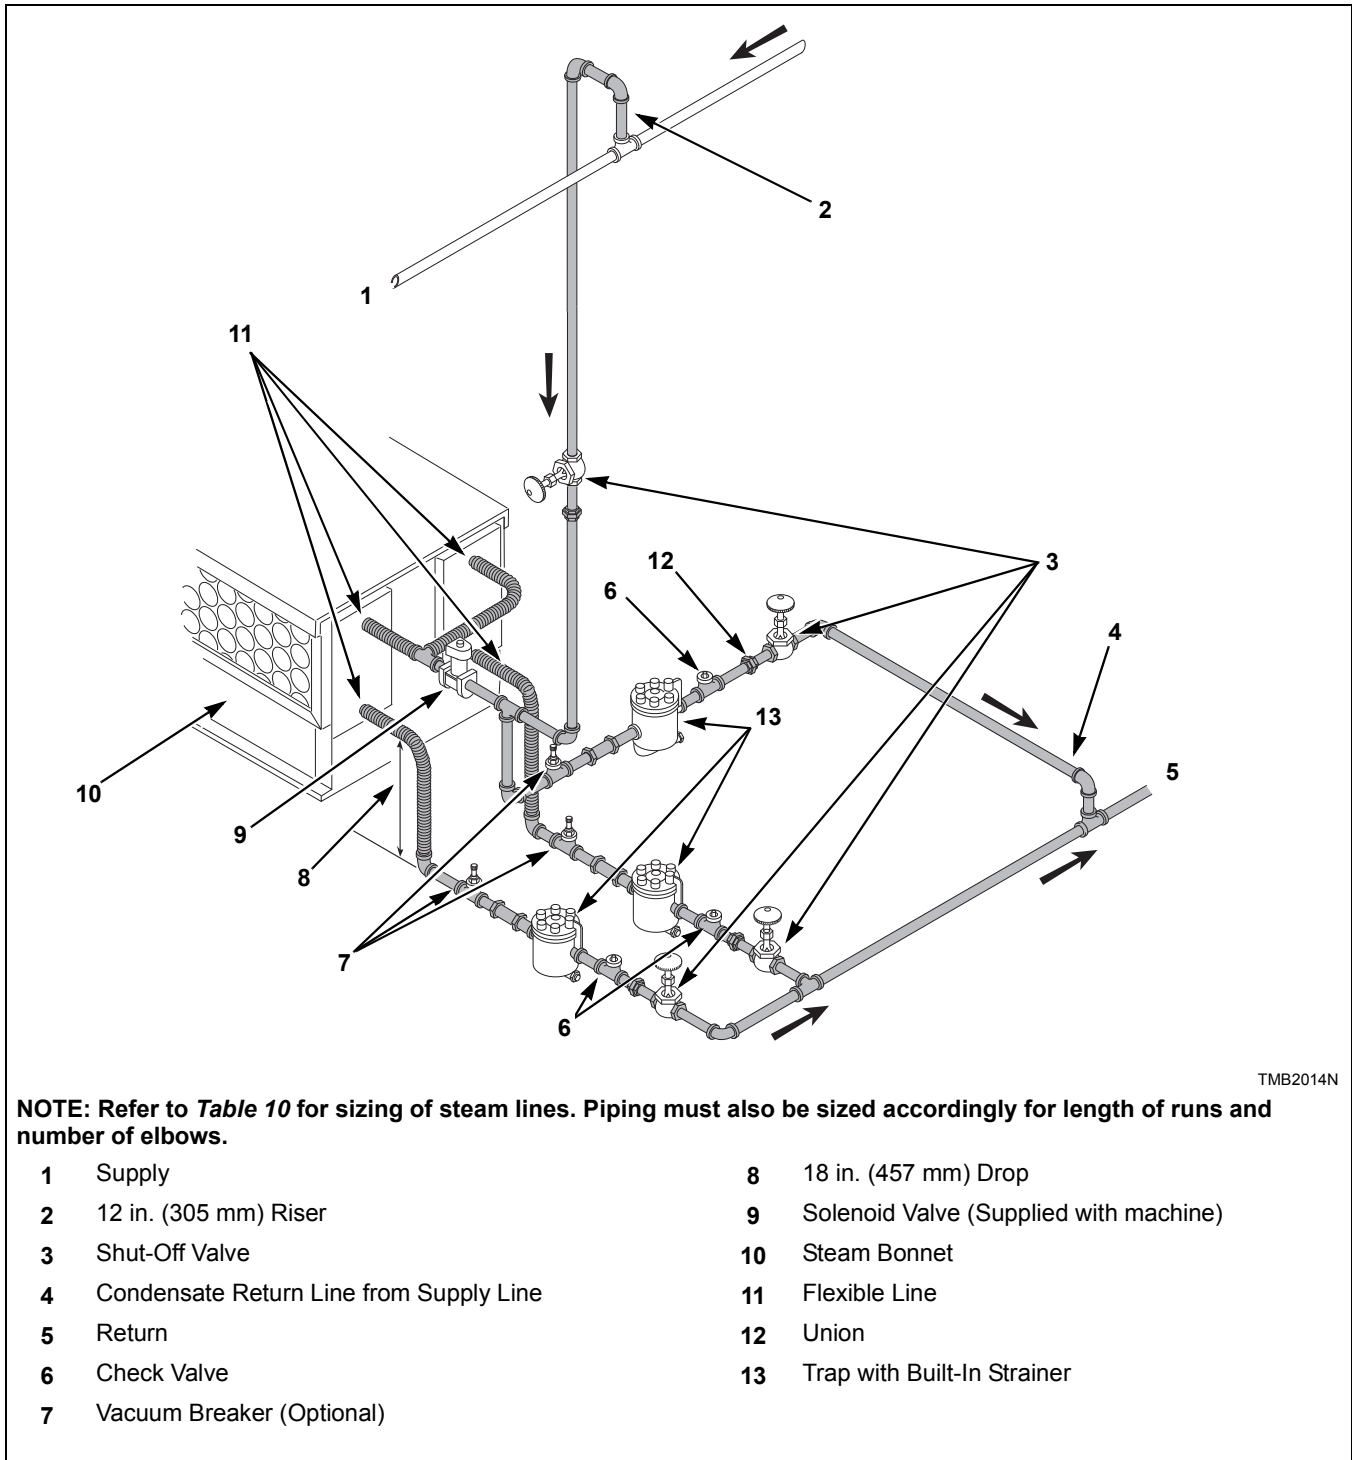
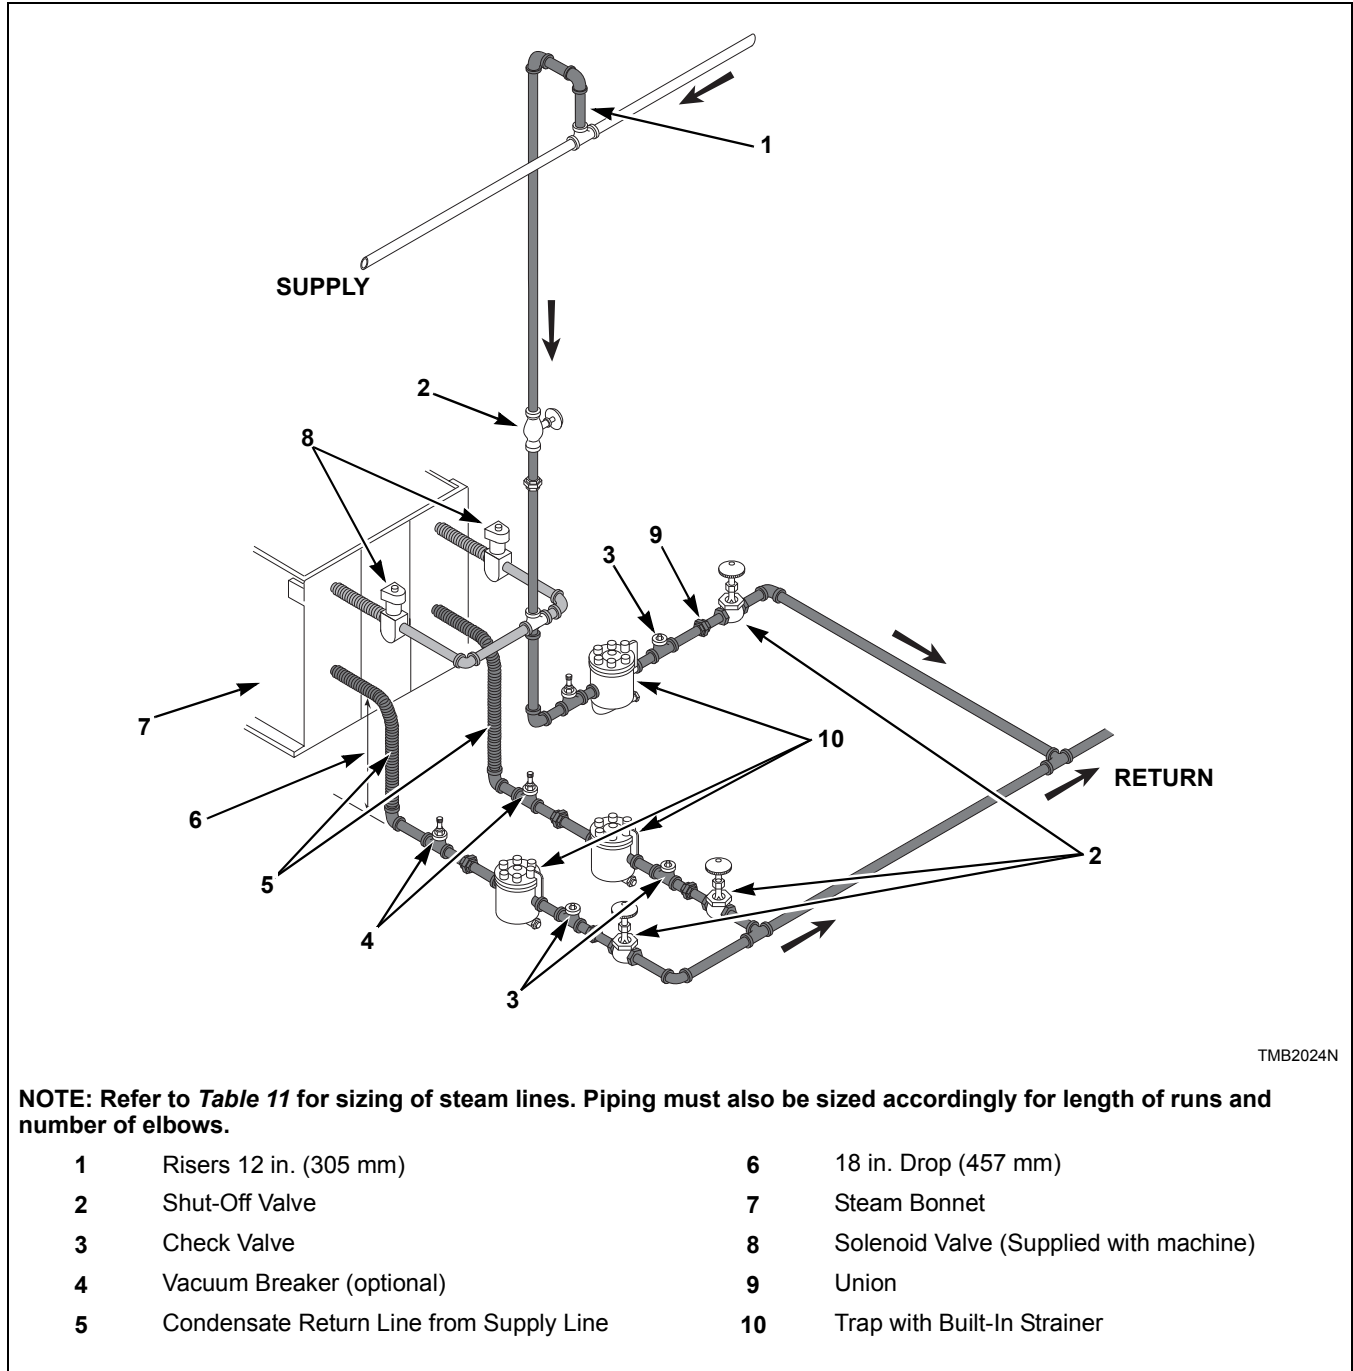

Figure 14
Figure 15
- Refer to *Figure 14* and *Figure 15* for proper steam pipe configurations.
The steam trap must be installed and the coil outlet connections must be connected to the condensate return lines. The following steps outline the procedure for installing the steam trap and connecting the condensate return lines. Refer to *Figure 14* and *Figure 15* for typical installations.